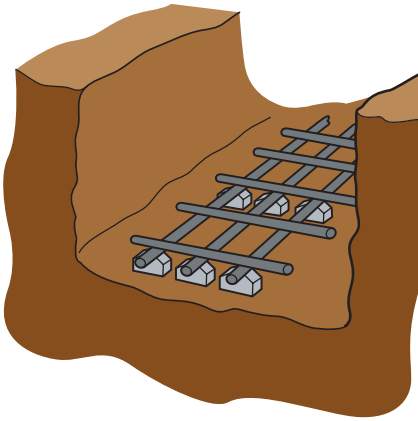

Figure 3 Long bars underneath when steel mesh is laid at the bottom of foundation concrete
- laid so that the long bars are on the underside of the mesh (Figure 3),